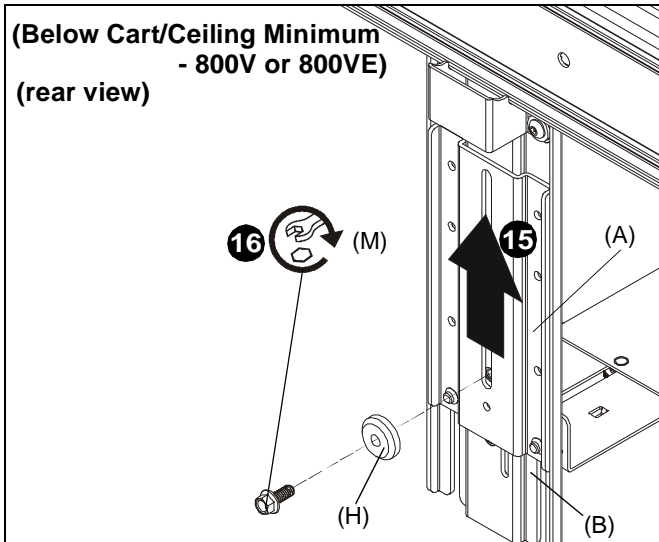

Figure 15
15. (For **minimum extension**) Slide upright bracket (A) behind main bracket (B). (See Figure 15)
16. (For **minimum extension - 800V or VE**) Use 1/4-20 x 5/8" hex head flange bolt (M) and center washer (H) to secure upright bracket (A) to main bracket (B). (See Figure 15)